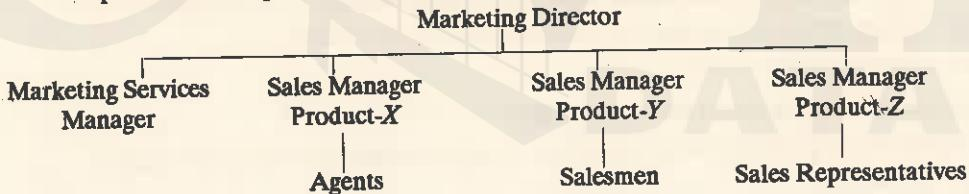

Fig. 31.3. A Product Group Organization.
- This type of sales organization (Fig. 31.3) is employed when there is a wide range of relatively unrelated product groups which require different selling methods and the company sales forces require their own particular market and technical knowledge.